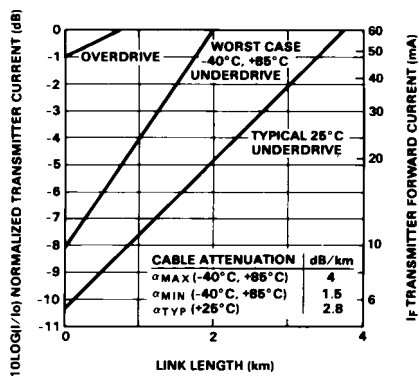

Figure 3. HFBR-1414/HFBR-2412 link design limits with 62.5/125 μm cable.
= 400 meters. From Figure 3 the drive current should be 15 mA. From the transmitter data $V_F = 1.5\text{ V (max.)}$ at $I_F = 15\text{ mA}$ as shown in Figure 9.
The curves in Figures 3, 4, and 5 are constructed assuming no in-line splice or any additional system loss. Should the link consists of any in-line splices, these curves can still be used to calculate link limits provided they are shifted by the additional system loss expressed in dB. For example, Figure 3 indicates that with 48 mA of transmitter drive current, a 1.75 km link distance is achievable with $62.5/125\ \mu\text{m}$ fiber which has a maximum attenuation of 4 dB/km. With 2 dB of additional system loss, a 1.25 km link distance is still achievable.
2. Typical performance of circuits shown in Figure 1 and Figure 3 of AN-1038 (see applications support section).
2. Typical performance of circuits shown in Figure 1 and Figure 3 of AN-1065 (see applications support section).